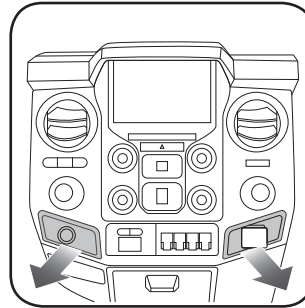
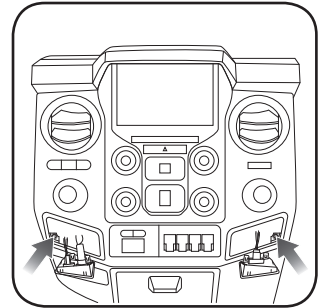

Fig. 1.1
Fig. 1.2
1. Unclip the two (2) panels at the bottom of the factory bezel. (Fig. 1.1) Remove two (2) 7mm screws behind the panels. (Fig. 1.2)